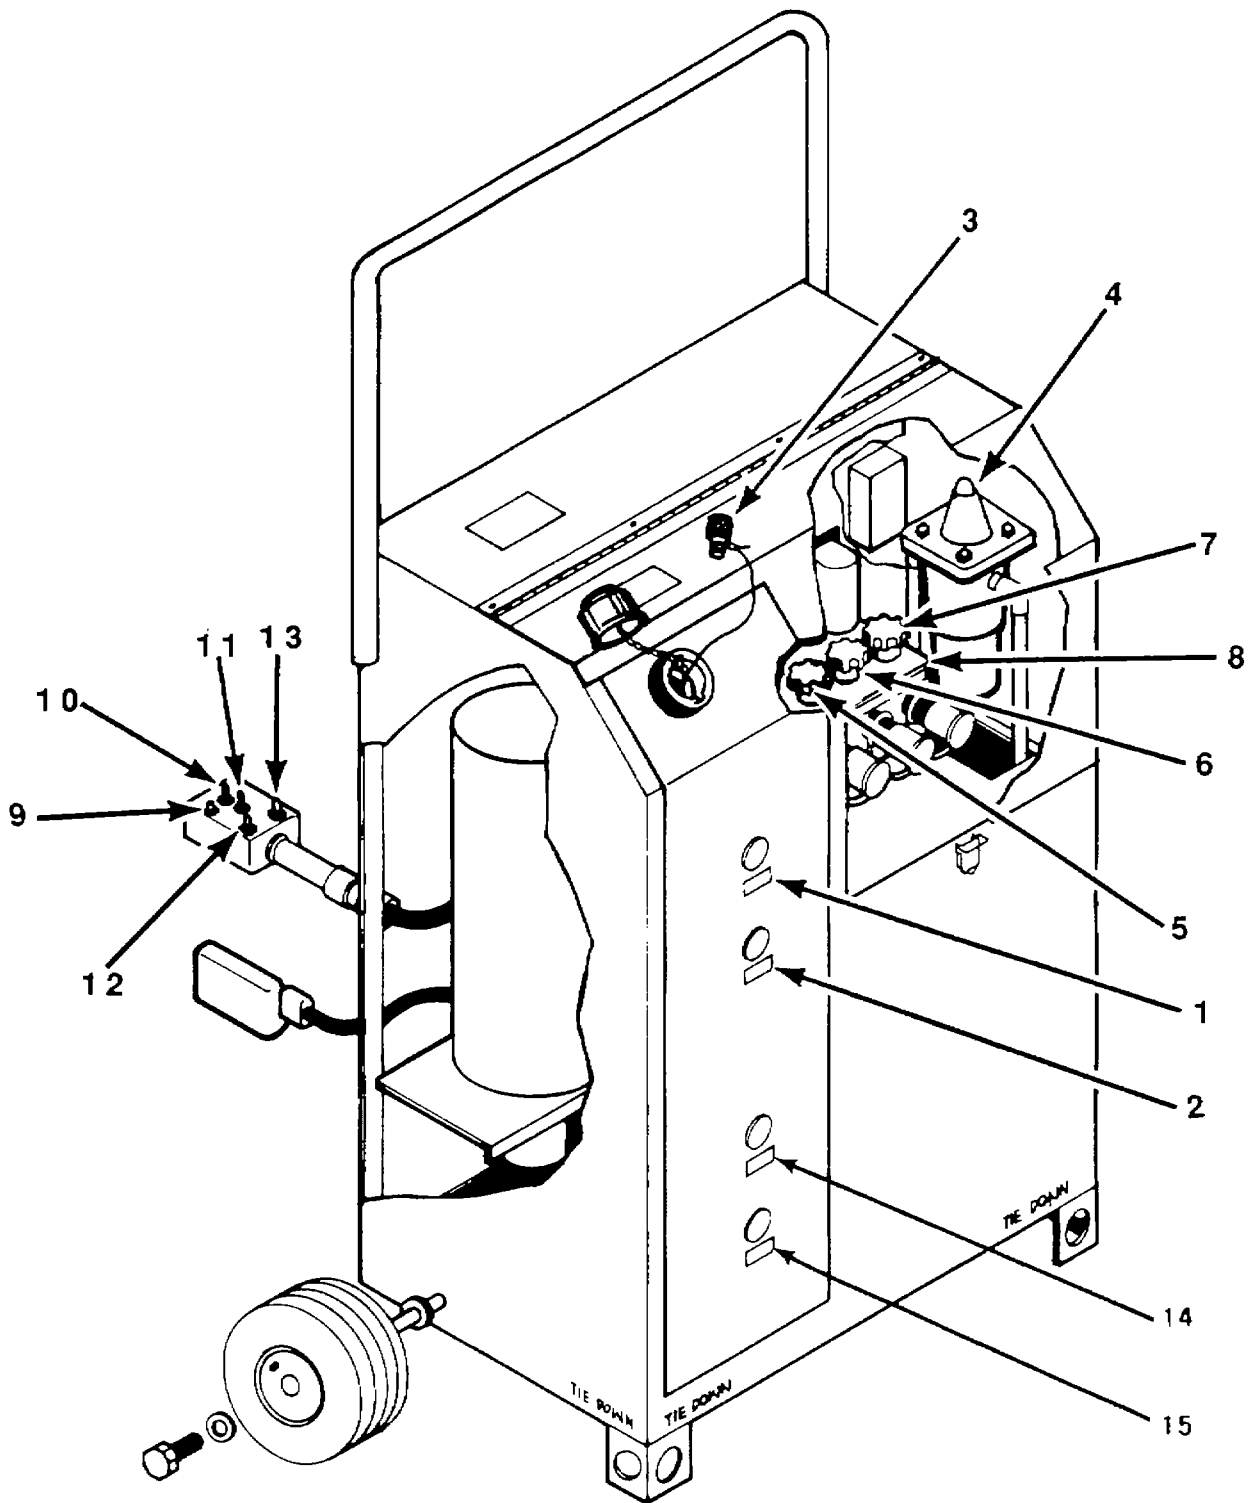

Figure 2-1. Controls and Indicators
**2-1. Controls and Indicators.** Controls and indicators for operation and monitoring of the hydraulic kneeling/erecting cart are located on the front side of the cart and on the controller which is stowed inside the cabinet. All controls and indicators are identified in Table 2-1 and located on Figure 2-1.
5. Remove controller from cabinet and ensure pump switch S4 (10, Figure 2-1) is in OFF position.
7. Set pump switch S4 (10) to ON.
9. Set pump switch S4 (10) to OFF.
4. Remove controller from cabinet and ensure pump switch S4 (10, Figure 2-1) is in OFF position.
6. Ensure POWER ON indicating light (9) is on.
7. Open hydraulic fluid filler cap on reservoir. Remove bleed adapter (3) from it.
8. Install bleed adapter (3) into the left hydraulic hose strut connector.
9. Point and hold connector with bleed adapter (3) installed into the filler cavity.
10. Ensure left manual flow regulator (6) is in open position (turn counterclockwise).
11. Set pump switch S4 (10) to ON. Move left switch S1 (12) to RAISE and hold. Observe for fluid flow. When fluid flows without air bubbles, release S1. Set pump switch S4 to OFF. Remove bleed adapter (3) from hose.
12. Install bleed adapter (3) into the right hydraulic hose strut connector.
14. Ensure right manual flow regulator (7) is in open position (turn counterclockwise).
2. Remove controller from cabinet and set pump switch S4 (10, Figure 2-1) to OFF position.
4. Ensure POWER ON indicating light (9) is on. Set pump switch S4 (10) to ON position.
7. Observe pressure reading on pressure gage (8). It should not exceed 3,000 psig.